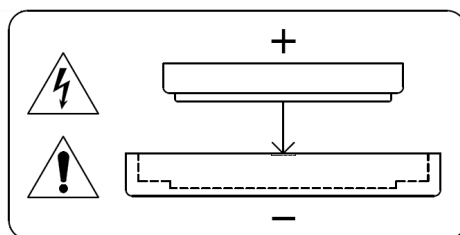

Figure 28-1. Shock Hazard and Battery Polarity Label
4. Note the orientation (polarity) of the battery in the tray or refer to the battery polarity label (Figure 28-1) on the DECS-450 side panel. The new battery must be installed with the same orientation.